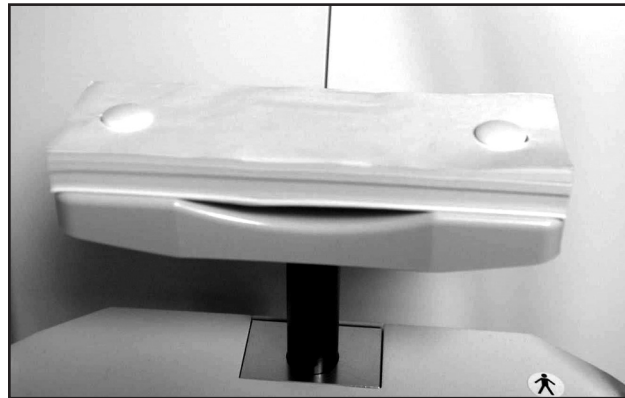

Figure T1. Chin Rest Pads and Pins
3. Install an adequate supply of Chin Rest Pads onto the Chin Rest and secure them with the Chin Rest Pins. Refer to Figure T1.